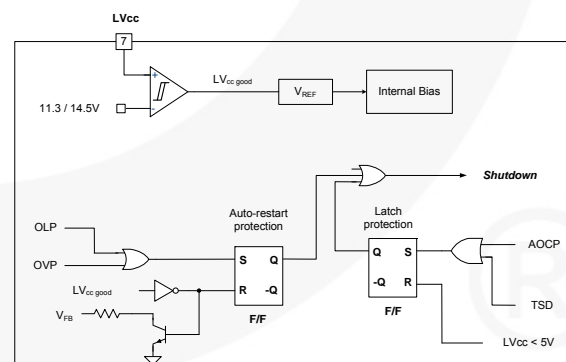

Figure 20. Protection blocks
3. Protection Circuits: The FSFA2100 has Overload Protection (OLP), Abnormal Over-Current Protection (AOCP), Over-Voltage Protection (OVP), and Thermal Shutdown (TSD) self-protective functions. The OLP and OVP are auto-restart mode protections, while the AOCP and TSD are latch-mode protections, as shown in Figure 20.